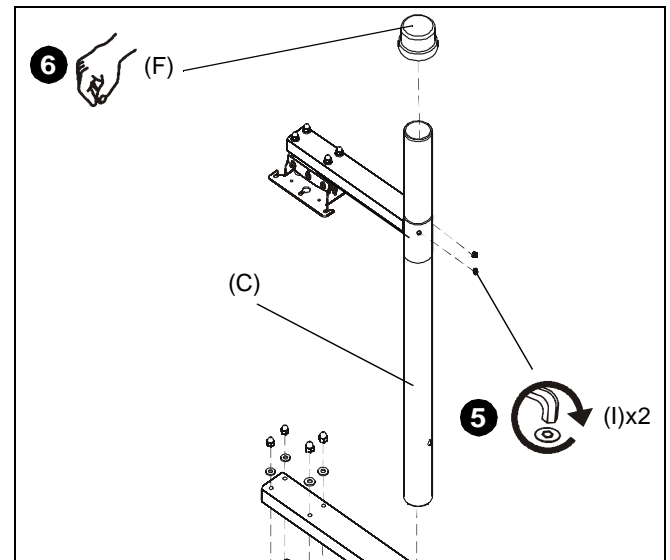

Figure 2
5. Slide both projector arms (A) onto the 1-1/2" vertical pipe section (C) and secure using two 5/16-18 x 3/8" set screws (I) on each arm. (See Figure 2)
6. Thread 1-1/2" safety nut (F) onto threaded end of the 1-1/2" pipe section. (See Figure 2)